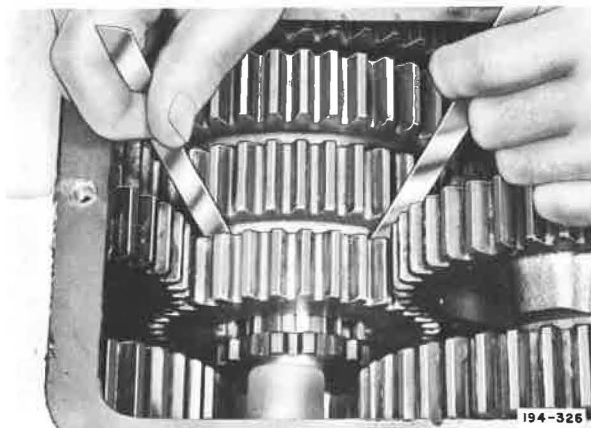

Figure 5-52. Checking Mainshaft Gear End-Play
19. With two feeler gages, check between third and fourth speed gear for recommended end-play. See Figure 5-52. Refer to "Screw Torques and Adjustment Chart" for selective thrust washers to obtain recommended end-play.